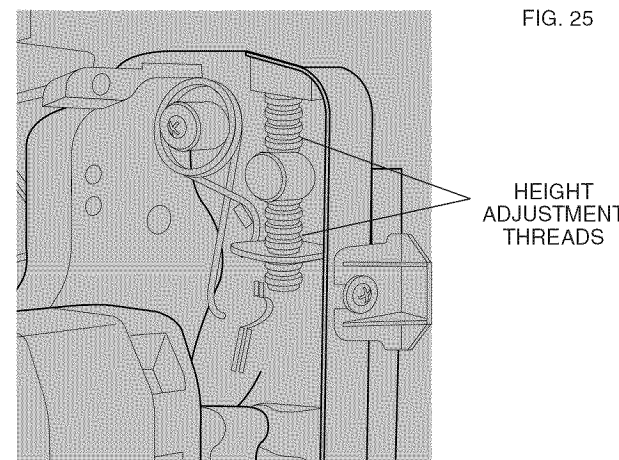

FIG. 25
- c) Clean and lubricate the height adjustment screws threads on the underside of your saw with general purpose grease, shown in Figure 25.